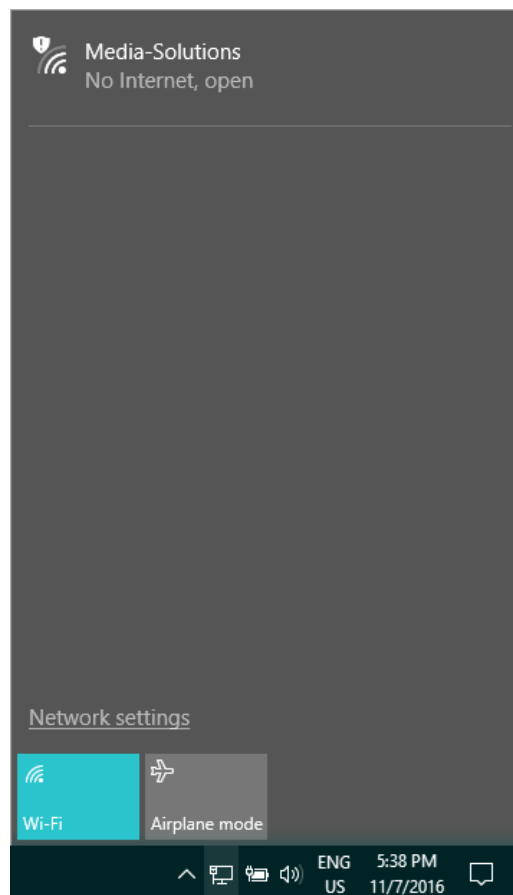

Figure 69: Scanning for Available Wi-Fi Networks
2. Using your Wi-Fi enabled device, scan for Wi-Fi networks. The "**Media-Solutions**" network should appear on the scanned list with the tester's unique identifier which is a four character & digit number, as shown in Figure 69 below.